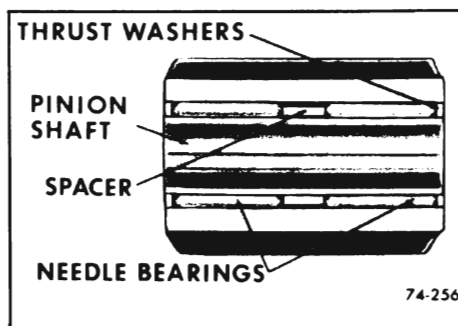

Figure 74-256
11. Remove needle bearings, spacer and two (2) thrust washers from the long planet pinion gear. See Figure 74-256.